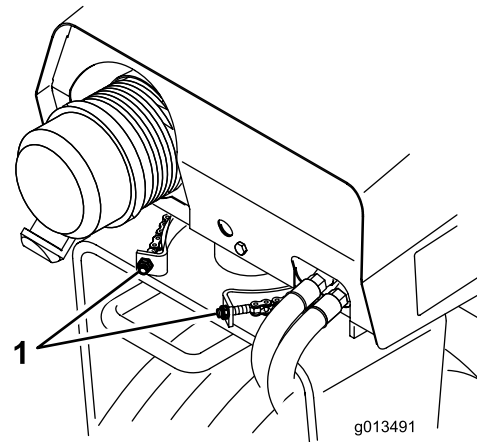

Figure 23
2. Adjust the locknuts until the chain is snug on both sides of the sprocket (Figure 23).